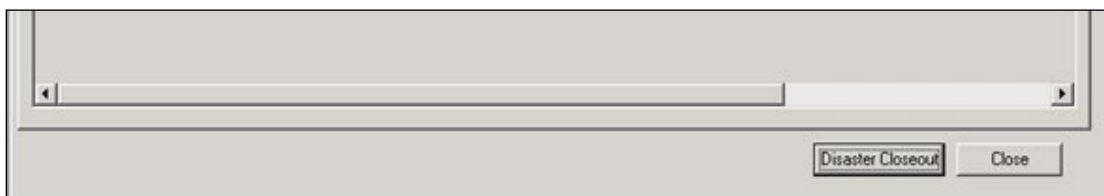

Figure 13-13: Disaster Closeout Button
17. Click the **Disaster Closeout** tab. At the bottom of the tab, click the DISASTER CLOSEOUT button (Figure 13-13).